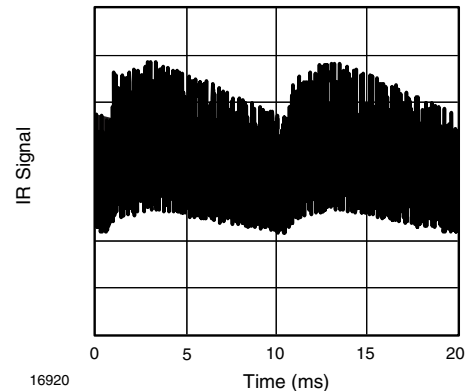

Fig. 14 - IR Signal from Fluorescent Lamp with Low Modulation
- Signals from fluorescent lamps with electronic ballast with high or low modulation (see fig. 14 or fig.15)